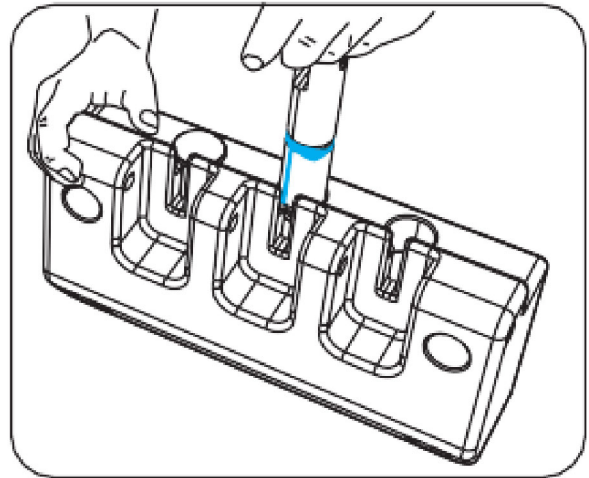

Figure 5-40
6. Pull out each draw valve (Figure 5-40.) from the freezer door and clean them thoroughly with a brush. Do not switch the center draw valve with either the left or right draw valves.